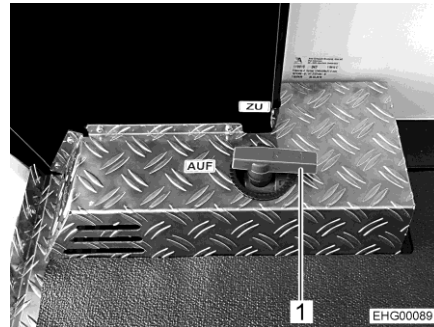

Fig. 206 Operating lever (drain cock)
The operating lever (Fig. 206,1) for waste water disposal is located in the rear garage. The drain pipe with a connection for a waste water hose is located under the vehicle.
- Open the drain cock. In order to do this, turn the operating lever (Fig. 206,1) to the open position ("AUF"). The waste water will run out.
- Close the drain cock again once all of the waste water has run out. In order to do this, turn the operating operating lever (Fig. 206,1) to the closed position ("ZU").